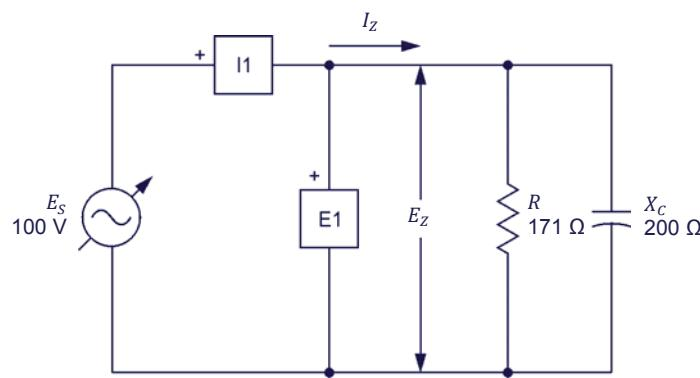

Figure 2-22. Parallel ac circuit containing a resistor and a capacitor.
- 53.** Set up the circuit shown in Figure 2-22.